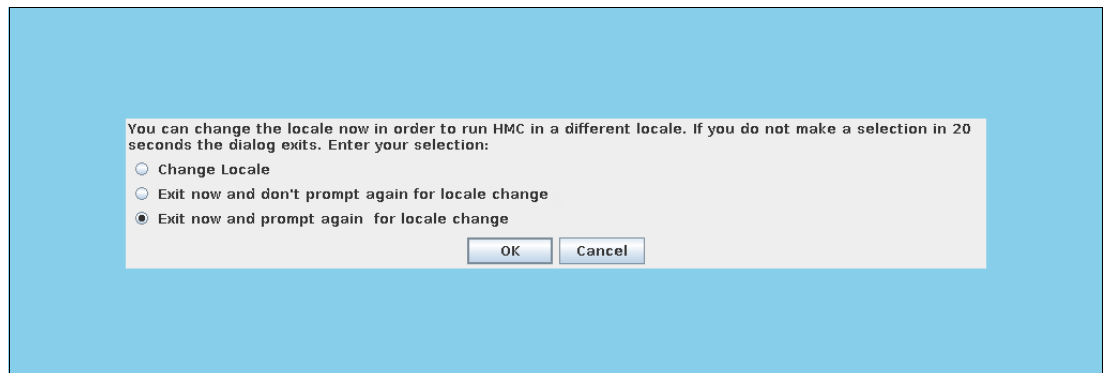

Figure 3-131 Local prompt change
8. The HMC reboots and displays the locale selection dialog box (Figure 3-131). The default action is to display at every boot. It times out after 20 seconds. To change this action, select the appropriate entry from the three options and click **OK**.